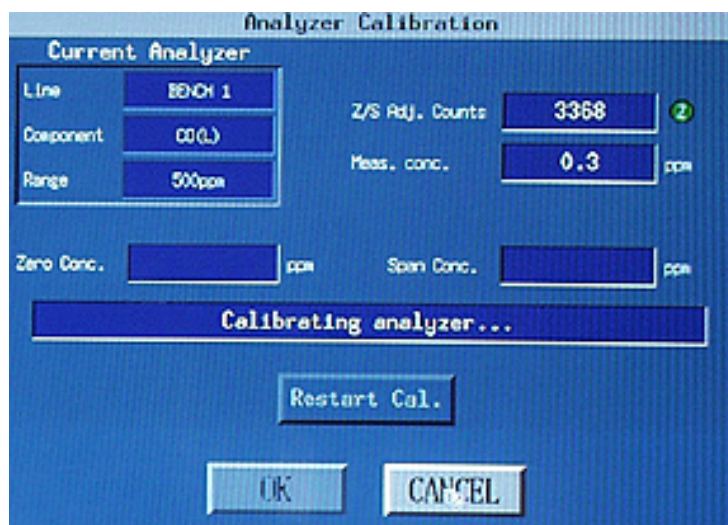

Figure 24
- 127 An automatic zero and span calibration check of the analyzer will occur. The indicator flashes “Z” during zero and “S” during span. See Figure 24.